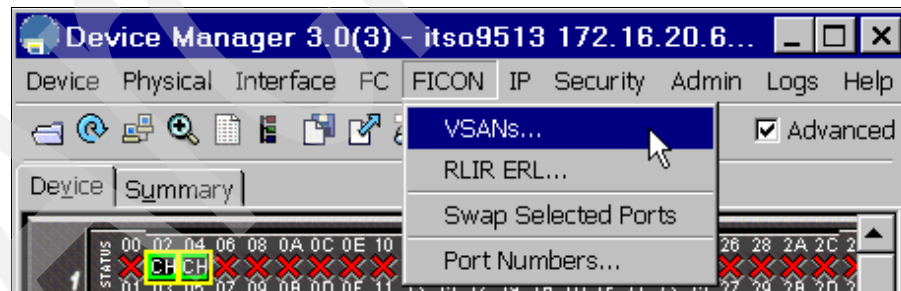

Figure 74 Accessing FICON configuration files
1. Select **FICON** → **VSANs** (Figure 74).